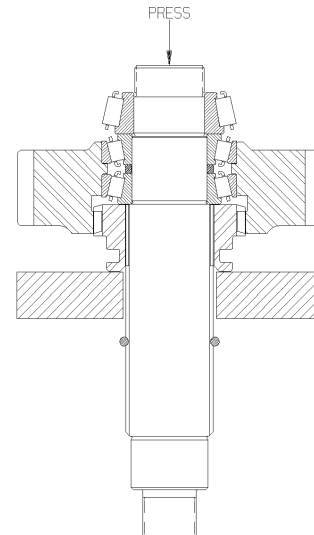

Fig. 28
3. Press the under-drive gear and all bearings off of the shaft as shown. See Fig. 28.